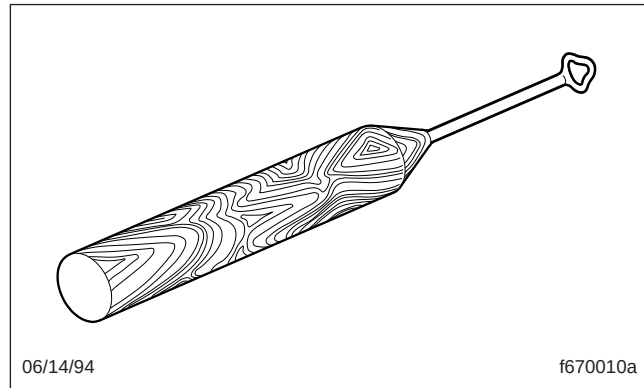
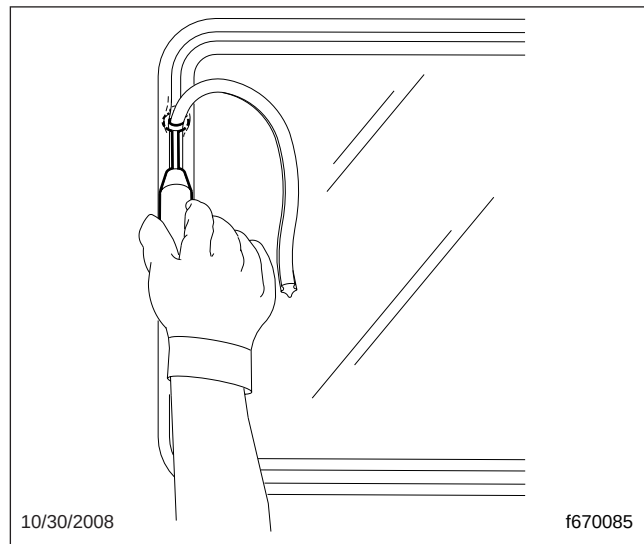

Fig. 4, Typical Bead Spreader
Fig. 5, Inserting Locking Strip Using Bead Spreader
15. Install the center seal locking strip, using a bead spreader; see Fig. 4 and Fig. 5. Insert the bead spreader into the center post seal, near the bottom. Feed the end of the lock strip through the bead spreader into the seal channel, pushing it to the bottom end of the center post seal. Move the bead spreader up the center post seal, feeding the lock strip into the channel. Make sure the lock strip does not twist in the channel; it should lay flat. Cut off any excess lockstrip and tuck the end into the channel.